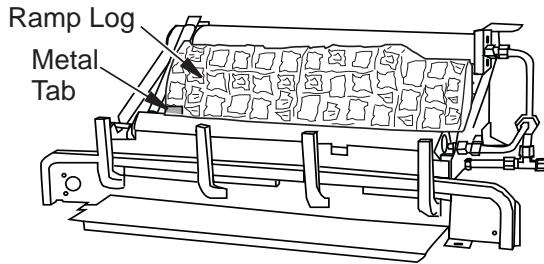

Figure 28 - Installing Fiber Ramp Log
- Place fiber ramp log in center of chassis as shown in **Figure 28, Page 20**. The fiber ramp log can be identified by the shape and much lighter weight when compared to the other logs. The log must sit flat on the black sheet metal and behind the left metal tab as shown. Make sure the side marked "BOTTOM" is setting down.